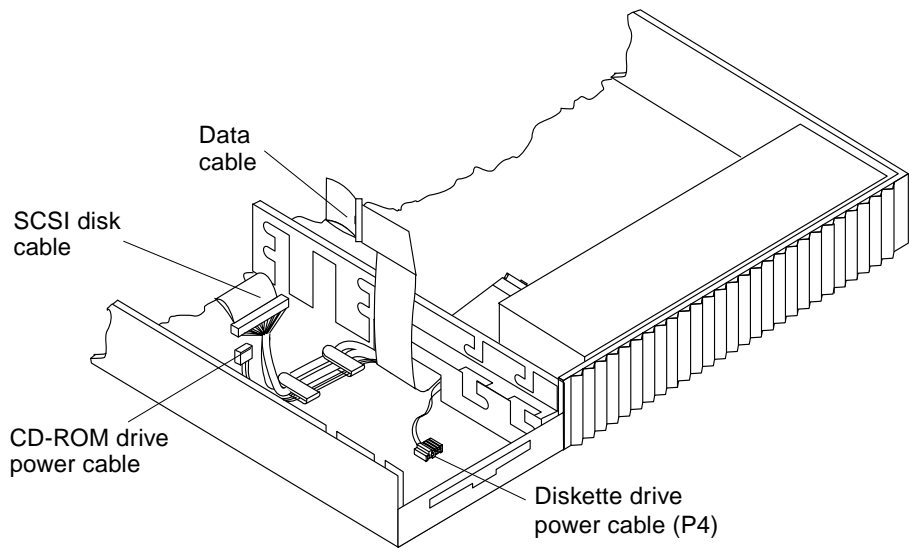

FIGURE 9-17 Moving the SCSI Disk Cable and the CD-ROM Drive Power Cable
- c. **Locate the two-wire diskette drive power cable labeled P4. Move the SCSI disk cable and the CD-ROM drive power cable away from the diskette drive opening (FIGURE 9-17 and FIGURE 9-17).**